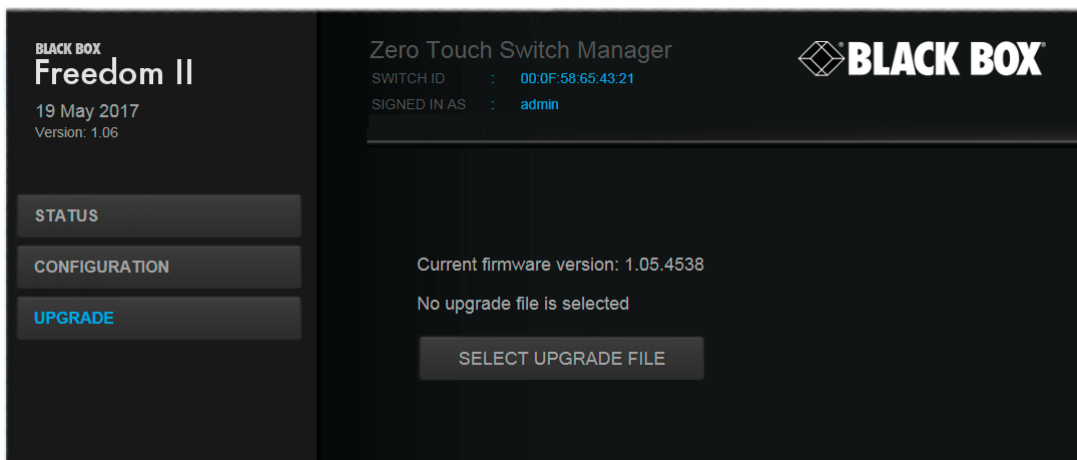

Figure 4-7. The Upgrade page
- 2 On the left side, click the Upgrade button. See Figure 4-7.